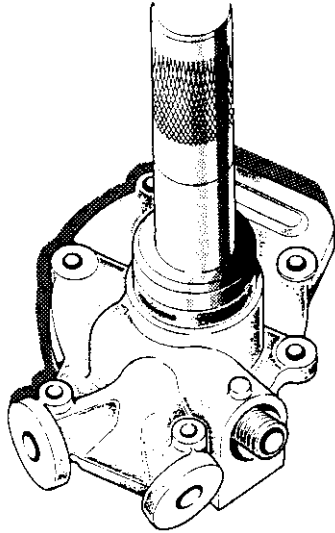

Figure 3 Replacing rear cover oil seal
1. Press new seal into cover using tool RT 7489 and drive handle 550 (**Figure 3**).
1. Using tool No. RT 7485 as a centraliser, or a primary shaft from a gearbox, position the clutch disc and pressure plate assembly on the flywheel, securing evenly with the six set screws and lock washers to a torque of 1.66 to 2.07 kg/m (12 to 15 lb/ft) (**Figure 3**)